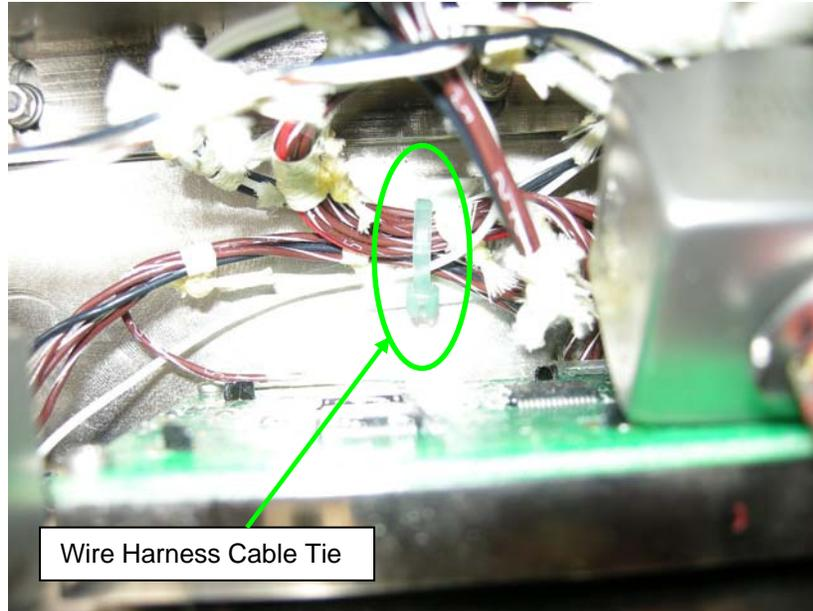

Figure 10.- Wire Harness Cable Tie
- 3.6 Rotate blue Wire Harness Cable Tie toward front panel of BCM (Large Needle Nose Pliers, Flashlight). Refer to Figure 10.
- 3.7 Cut wire harness cable tie near head of wire tie (Wire Cutters, Flashlight). Remove with Large Needle Nose Pliers. Refer to Figure 10.